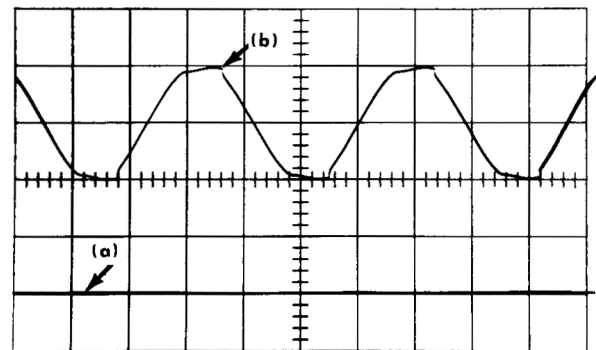

Fig. 3-2. Measuring the dc level of a point on a waveform.
3. Set the AC-DC-GND switch to GND and use the POSITION control to align the trace with one of the graticule lines, such as (a) in Fig. 3-2. This line is a ground (or zero) reference. The position of this reference line depends on the
6. Measure the vertical distance, in graticule divisions, from the ground (zero) reference line to the point on the waveform that you wish to measure, such as (b) in Fig. 3-2.